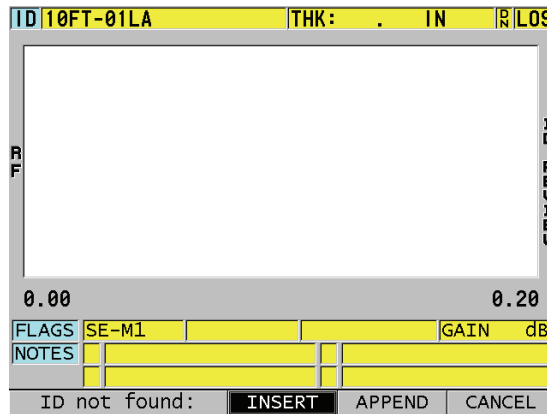

Figure 11-29 The message when the edited ID is not in the database
6. When the edited ID is not in the database, the help text bar message shown in Figure 11-29 on page 198 appears, select **INSERT** to insert the new ID before the active ID.